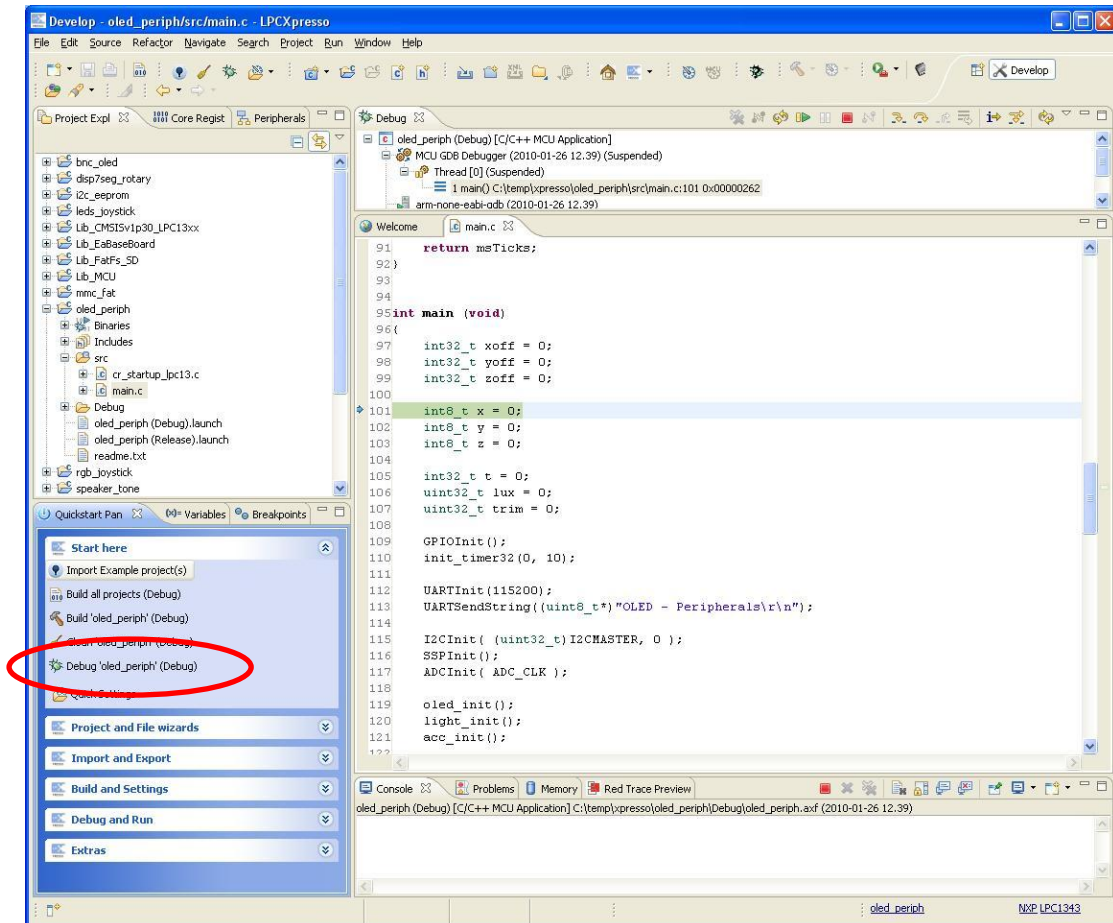

Figure 15 – LPCXpresso Debugging View
3. Click the Debug button in the Quickstart panel, see Figure 15. When the program has been downloaded, execution will stop at the first breakpoint which is the `main` function.